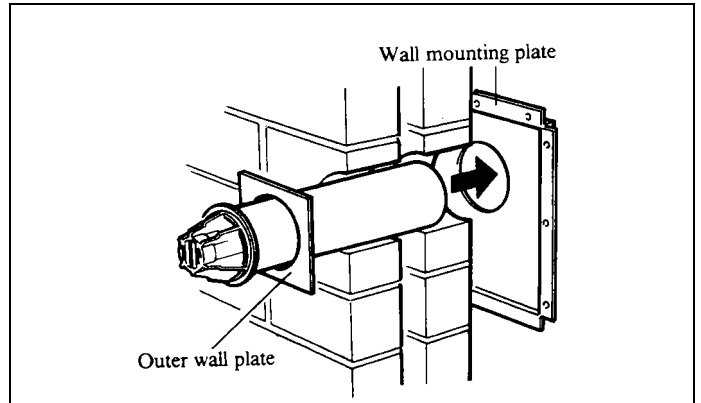

Fig. 11
Refer to Figs. 11 and 12.
1. Fit the outer wall plate, supplied with the flue/terminal assembly, over the flue/terminal assembly as shown in Fig. 11.